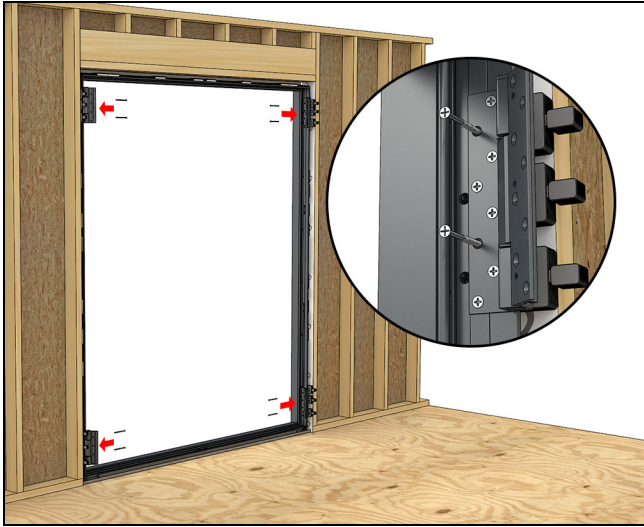

Figure 46
11. On hinged doors, put two installation screws through each hinge. Make sure to maintain a straight jamb (not bowed). Shim behind the hinge. See Figure 46.
17. On hinged doors, put two installation screws through each hinge. Make sure to maintain a straight jamb (not bowed). Shim behind the hinge. See Figure 46.